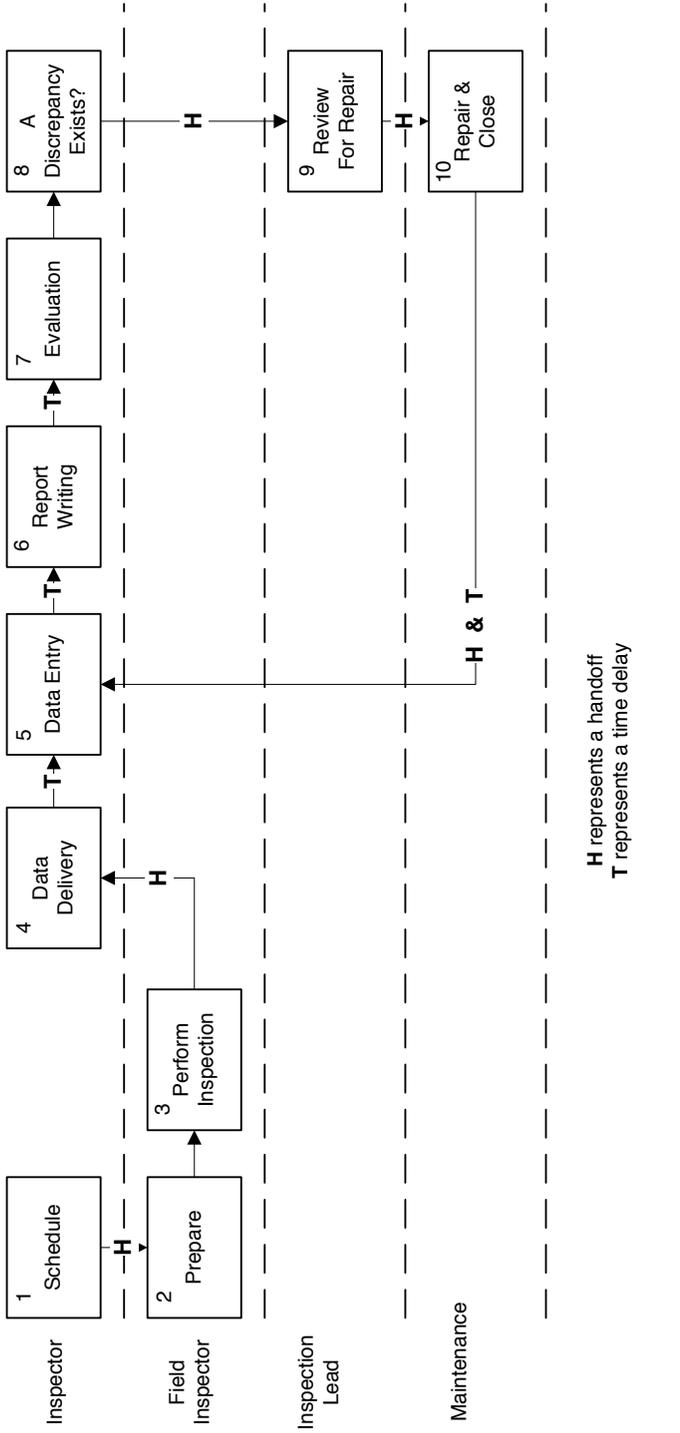

Figure 1 The Problem with Multiple Handoffs and Time Delays
Figure 1 shows a typical inspection process in which the activities in blocks labeled 4, 5, and 6 are highly administrative. These blocks take time away from inspectors performing more value-added work. Several steps in this process are ineffective; they take up valuable time, costs unnecessary expenditure of
Now let's examine the concept of doing things right. Again look at Figure 1. In proceeding from gathering data to developing actionable reports, most firms currently have multiple handoffs of the data (in manual form) from one person to another. At some point, this data does get entered into the system. However, due to the handoffs (labeled "H" in the figure), there is a high likelihood that errors will be introduced.
One of these benefits is helping the company address the significant time delay (labeled "T" in Figure 1) between the acquisition of data and the generation of a report for analysis and, as needed, corrective action. This delay, which I refer to as "time delay to action," can be found throughout businesses in areas
Figure 1 showed the inefficiencies of a typical inspection process or, for that matter, any process that requires data handoffs, manual entry, and time delay in obtaining results. But since a picture is worth a thousand words, let's look at Figure 2 to visualize the benefits of mobility.
Figure 2 shows a model of the same process as Figure 1, but with mobility applied. Notice the reduction of handoffs (H) from 5 to 3. Also notice the reduction of time delays (T) from 4 to zero. You'll also see that Blocks 4, 5, and 6 have been eliminated. These blocks add time, but not value, to the inspector's work.